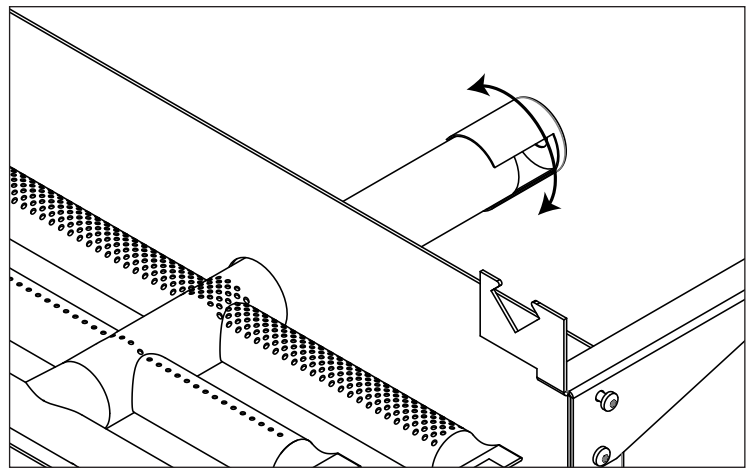

Figure 13: Burner Cap Adjustment
2. The cap at the back of the burner assembly can be rotated to open/close the air channel for the burner (see Figure 13).